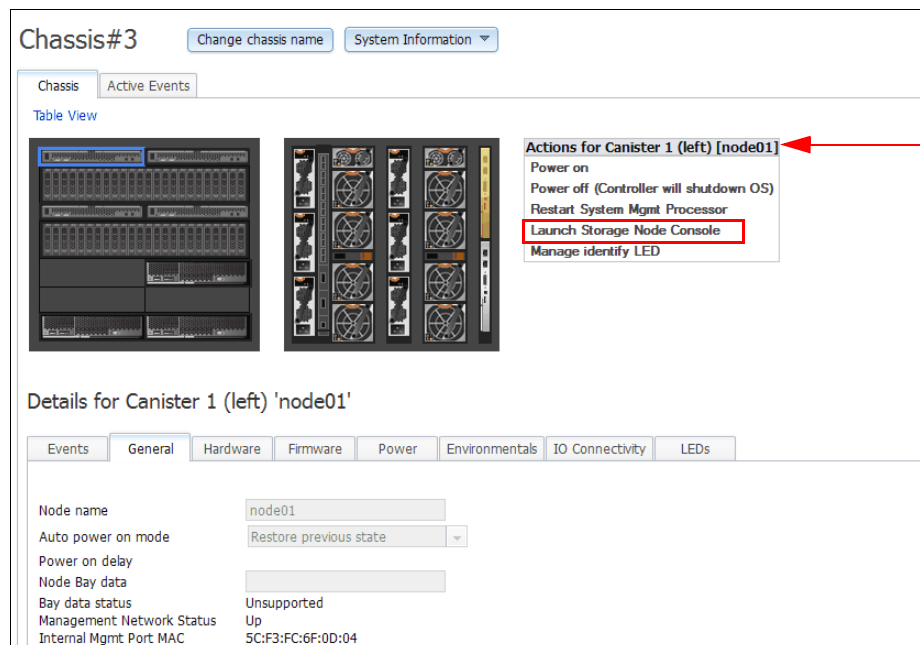

Figure 4-8 CMM - Select Launch Storage Node Console
2. Select the Actions menu and click Launch Storage Node Console. The Action menu can be found by right-clicking on the left canister in the graphical representation of the storage node, as shown in Figure 4-8.